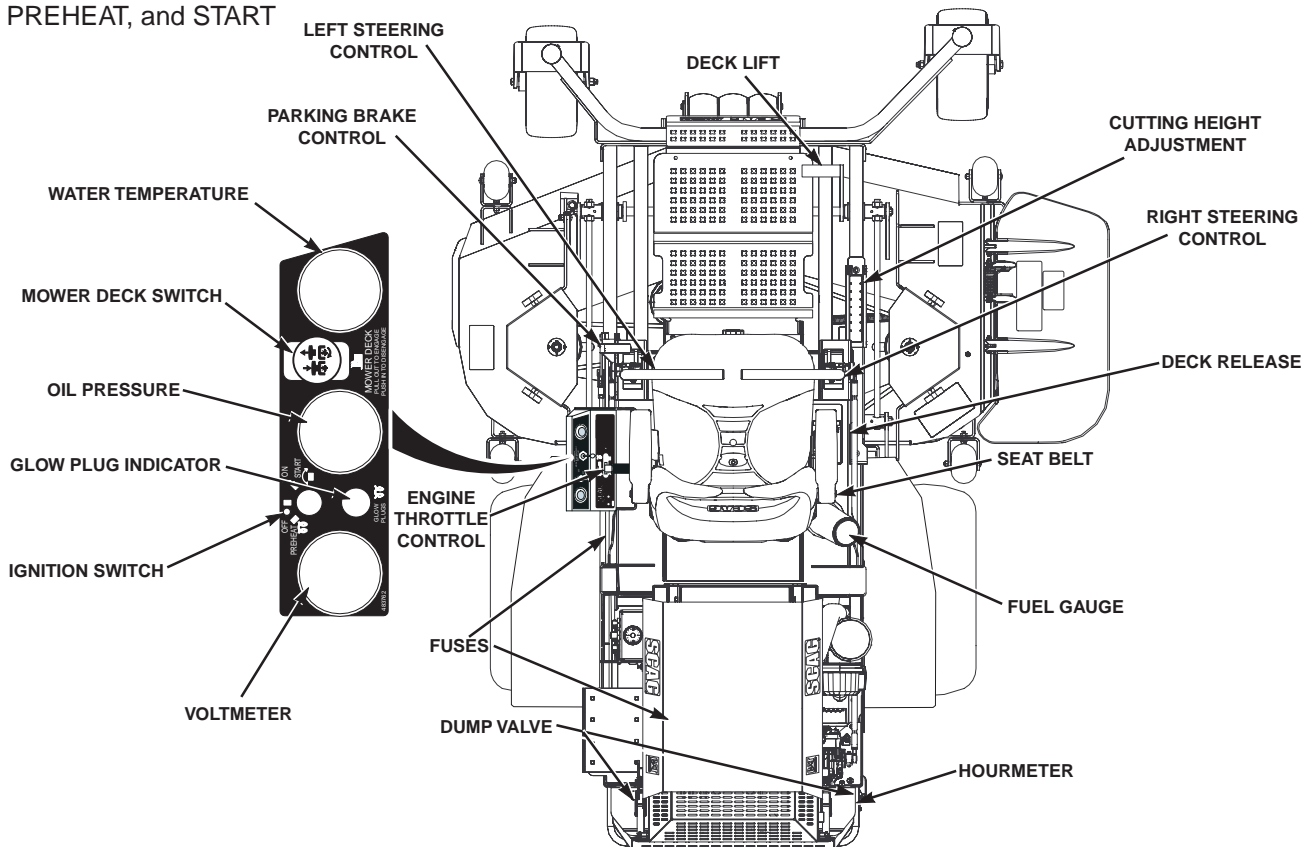

Figure 4-1. Controls and Instruments
1. **Ignition Switch (Figure 4-1).** The ignition switch is used to start the engine. The ignition switch for the STT-28CAT-SS has four positions; PREHEAT, OFF, ON, and START. The ignition switch for the STT61V-25KBD-SS has three positions; OFF, ON / PREHEAT, and START
2. **Mower Deck Switch (Figure 4-1).** Used to engage and disengage the mower drive system. Pulling up on the switch will engage the deck drive. Pushing down on the switch will disengage the deck drive.
3. **Glow Plug Indicator (Figure 4-1).** Yellow indicator turns on when the key switch is turned to the PREHEAT position. Glow plugs must be preheated for 5 to 10 seconds before starting the engine.
4. **Engine Throttle Control (Figure 4-1).** Used to control the engine speed. Pushing the lever forward increases engine speed. Pulling the lever back decreases engine speed. Full back position is the IDLE position. Full forward is the cutting position.
5. **Voltmeter (Figure 4-1).** Indicates the condition of the charging system. When the engine is running, in normal operating conditions, the needle should be in the 12 to 14 volt range.
6. **Oil Pressure (Figure 4-1).** Indicates engine oil pressure. Reference the engine operator's manual for further information.
7. **Hour meter (Figure 4-1).** Indicates the number of hours the engine has been operated. It operates whenever the engine is running. Has preset maintenance reminders for engine and hydraulic system oil changes. Will start flashing scheduled maintenance 2 hours before preset time and continue flashing until 2 hours after. Automatically resets.
8. **Fuse Holders (Figure 4-1).** There are one 20-amp fuse and one 50-amp resettable fuse that protect the mower's electrical system. To replace fuse, pull fuse out of the socket and install a new fuse.
9. **Left Steering Control (Figure 4-1).** Used to control the mower's left wheel when traveling forward or reverse.
10. **Right Steering Control (Figure 4-1).** Used to control the mower's right wheel when traveling forward or reverse.
11. **Parking Brake Control (Figure 4-1).** Used to engage and disengage the parking brakes. Pull the lever back to engage the parking brakes. Push the lever forward to disengage the parking brakes.
12. **Fuel Tank Gauge (Figure 4-1).** Indicates the amount of fuel in the fuel tank.
14. **Deck Lift Foot Lever (Figure 4-1).** Used to raise and lower the cutter deck.
15. **Cutting Height Adjustment (Figure 4-1).** Used to set the cutter deck at the desired cutting height.
16. **Deck Release Lever (Figure 4-1).** Used to lock the cutter deck in the transport position. Push the foot pedal forward and lift up on the release lever to release the cutter deck for normal mowing.
17. **Temperature Gauge (Figure 4-1).** Indicates the operating temperature of the engine.
18. **Seat Belt (Figure 4-1).** Used to secure the operator. Seat belt must be worn at all times when the ROPS is in the upright and locked position.